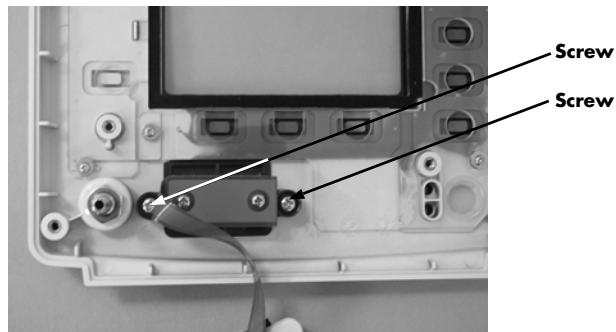

FIGURE 4-10 Remove two (2) screws.
7. Remove the two (2) screws for the SpO₂ signal cable (as shown in Figure 4-10).